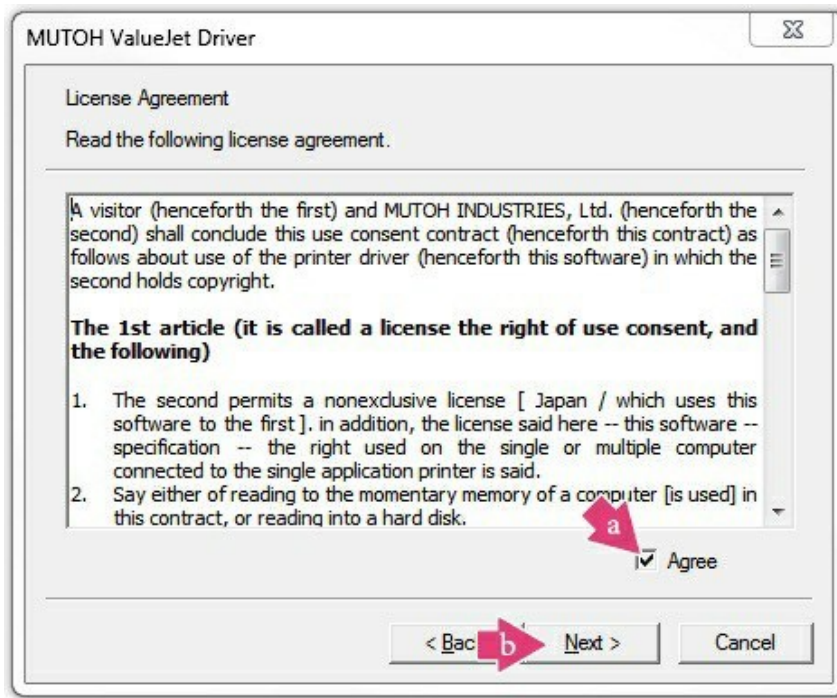

Figure 29
16. Review the Mutoh Printer License Agreement before installing. If you agree, check the box to the left of **Agree (a)** and select **Next (b)** to continue. See Figure 29.